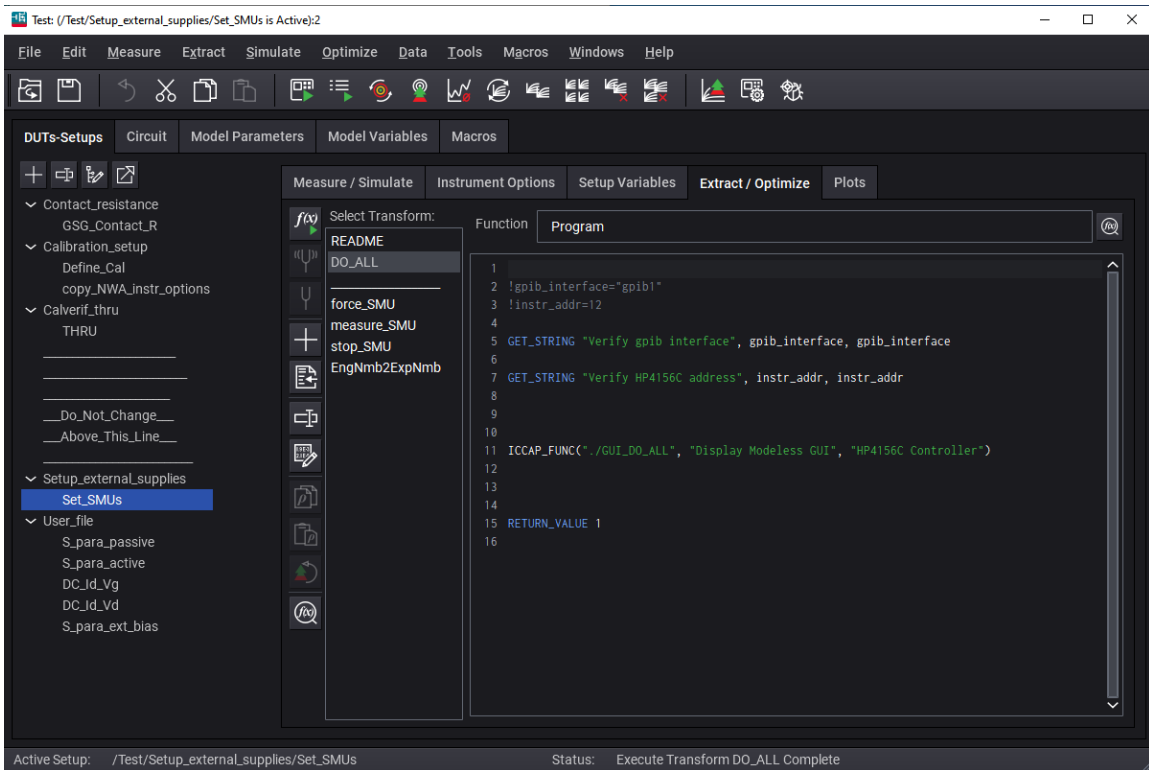

Fig. 11.2. Set up external supplies.
- 11.8 In the IC-CAP project you loaded in Step 7.1 (Fig. 7.1), under “Setup_external_supplies” of the left menu, click on “Set_SMUs,” then “Extract/Optimize” on the top menu. Double click on “Do All” on the left menu (Fig. 11.2).